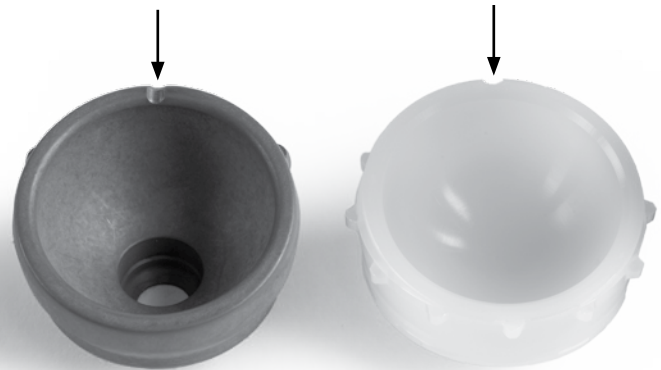

Fig. 6
- The Indicator Mark on the face of the Provisional Liner corresponds to the highest elevation and to an identical mark on the Liner implant. Note the location of the Indicator Mark to ensure proper orientation during subsequent liner placement (Fig. 6).